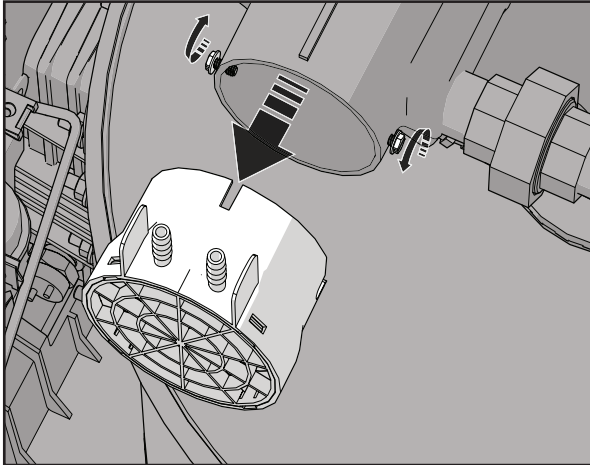

Figure 39. Replace the Air Intake Orifice
11. Using a short-handled screwdriver, slightly loosen two (2) screws from the air intake orifice.
12. Gently remove the original air intake orifice and screen from the blower air intake (Figure 39).